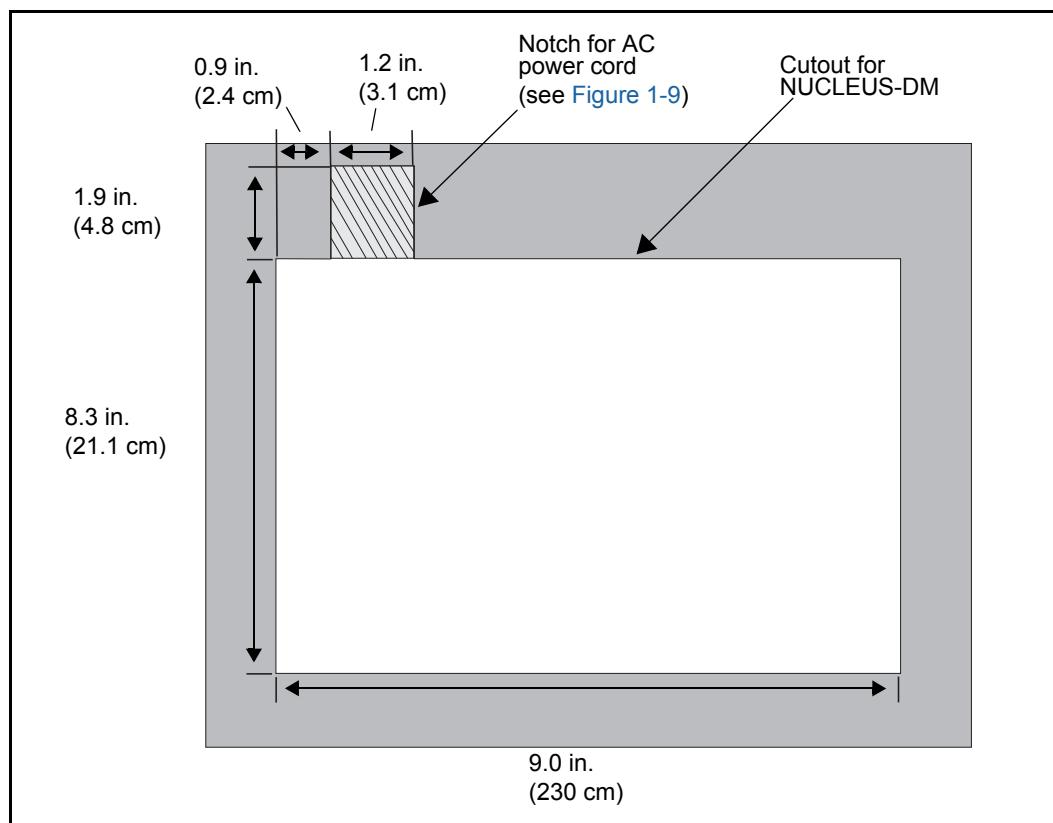
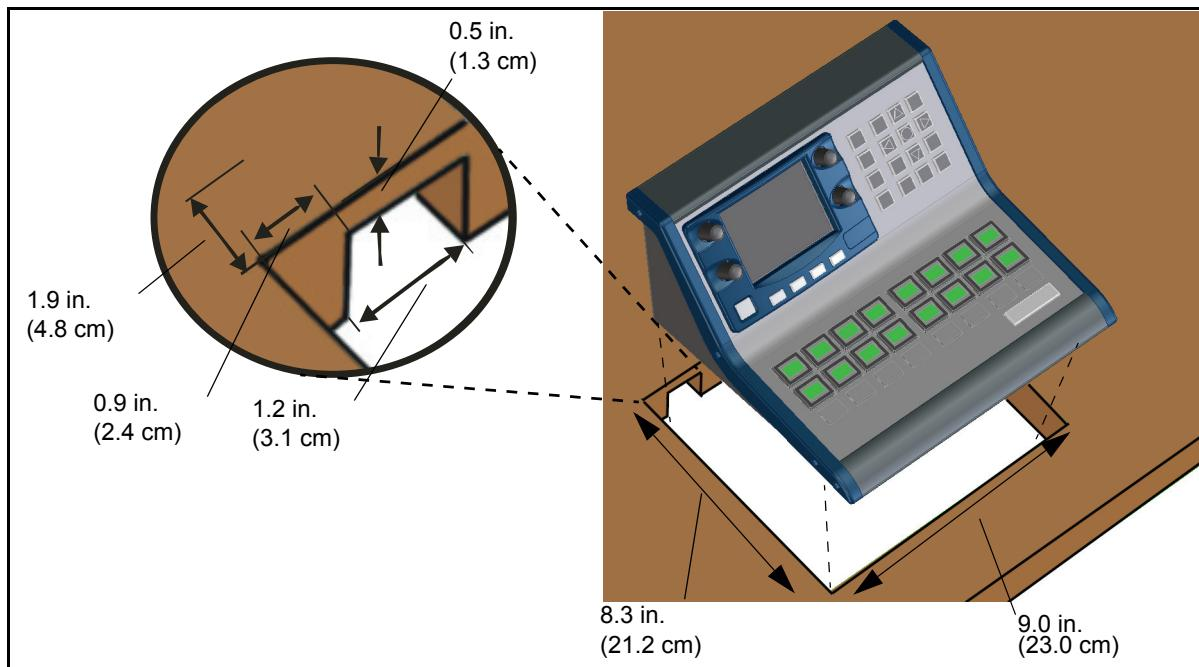

Figure 1-5. Dimensions for NUCLEUS-DM Cutout
Figure 1-9. Mounting NUCLEUS-DM into the Cutout
1. Using the dimensions shown in Figure 1-5 on page 6 and Figure 1-9 on page 8, make a cutout in the desk or tabletop.
If the surface of the desk or table you want to set NUCLEUS-DM into is more than 0.5 in. (1.3 cm) thick, you must notch the desk's or table's under surface to provide space for the AC power cord. As an alternative to notching the under surface, you can cut out a space for the power cord. The dimensions for notching the desk or table under surface are included in Figure 1-9 on page 8.